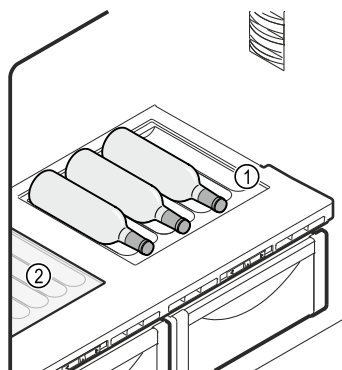

Fig. 137 Example illustration
- Insert the glass shelf Fig. 137 (2) under the variable bottle rack.